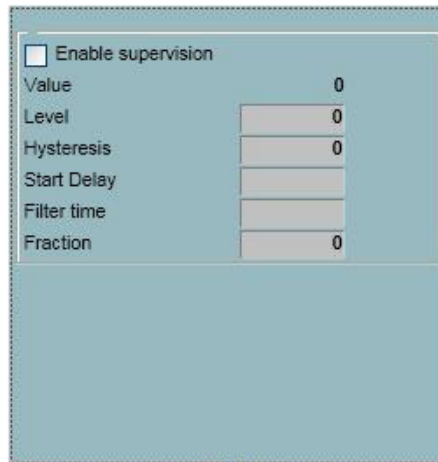

Figure 257. The Level detection graphics moved to the top of the background
7. Move the Level Detection graphic to the top of the faceplate element as shown in Figure 257. The graphic should be placed at position [3,3].